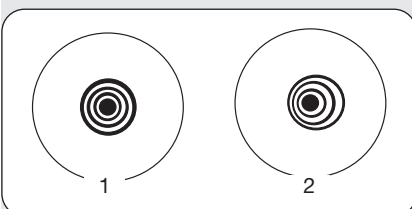

Fig. 32: Correct (1) and incorrect (2) collimation viewed during a star test.
5. Bring the star's image slowly in and out of focus until you see several disks surrounding the star's center. If steps 1 through 3 were done correctly, you will see concentric (centered with respect to each other) circles (1, Fig. 32).
An improperly collimated instrument will reveal oblong or elongated circles (2, Fig. 32). Adjust the 3 collimating screws on the primary mirror housing until the circles are concentric on either side of the focus.